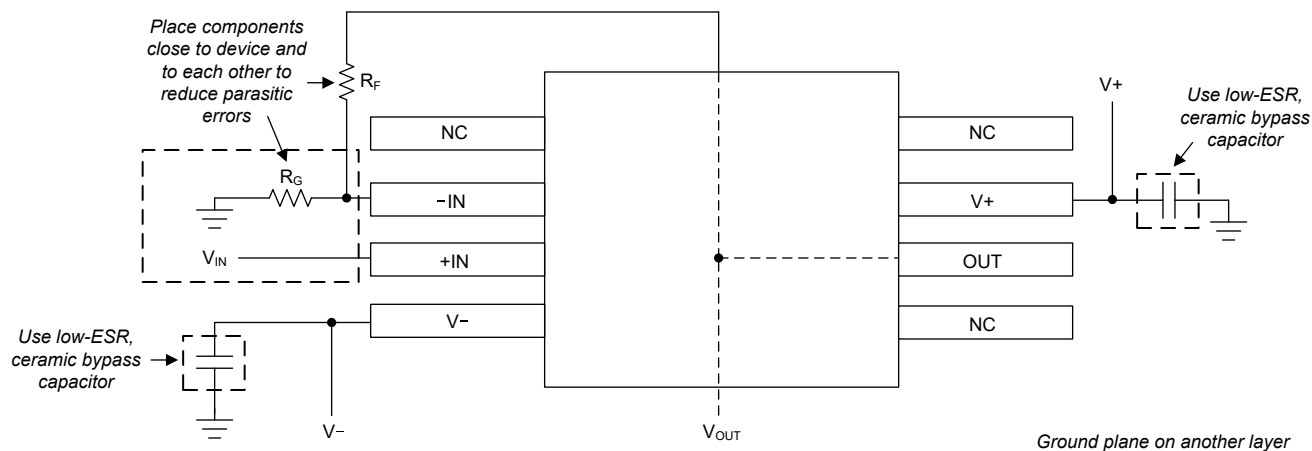

Figure 7-10. OPA627 Layout Example for the Noninverting Configuration
- Place the external components as close to the device as possible. As shown in Figure 7-10, keeping RF and RG close to the inverting input minimizes parasitic capacitance.